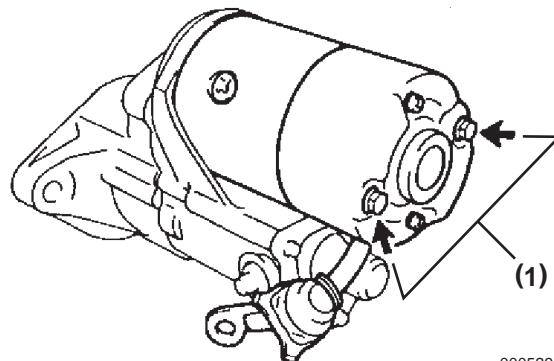

Figure 10-4
3. Remove the 2 through bolts (Figure 10-4, (1)) and spring washers then pull the field coil frame from the magnetic switch, together with the armature and remove the felt washer from the rear bearing.